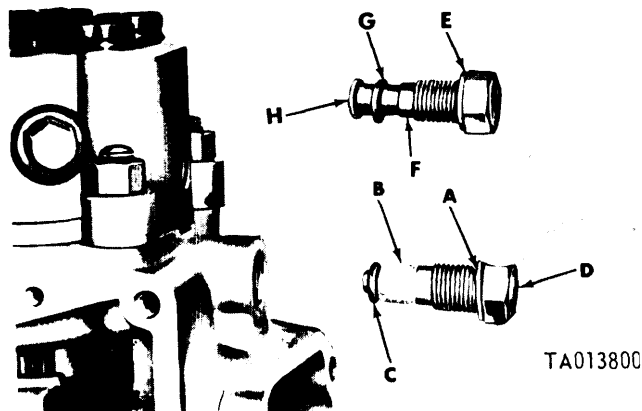

Figure 3-123. Installing oil filter.
(2) Refer to figure 3-123. Install filter screw copper gasket (A) and oil filter (B) on filter screw (D). Apply grease, Federal specification VV-P-236, to filter screw packing (C), and install on oil filter screw (D). Install oil filter screw and associated parts. Torque tighten screw to 20-25 foot-pounds.
(4) Refer to figure 3-123. Lubricate and install packing (G) on pin-(H). Install washer (E) on screw (F) and assemble pin and screw. Install screw assembly in pump housing and torque tighten to 20-25 foot-pounds.